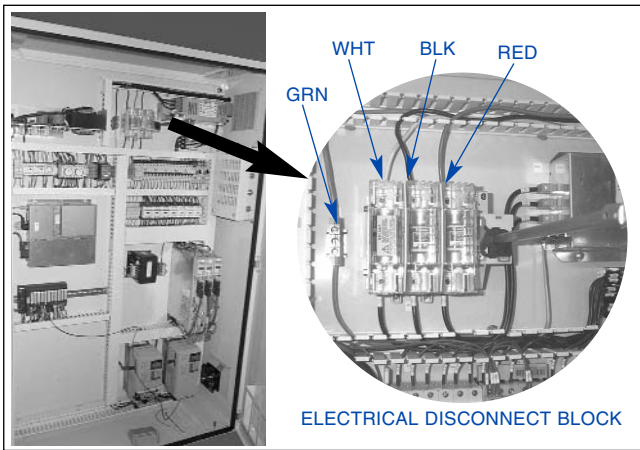

FIGURE 1-7, Electrical Enclosure
2. Insert Electrical Supply Cord through Entrance Hole, and route to Electrical Disconnect Block (see Figure 1-7).
- If rotation is incorrect, shut OFF power to Machine and reverse any two wires (RED, WHT, or BLK) of Electrical Supply Cord where they are connected to Electrical Disconnect Block in Electrical Control Enclosure. (Refer “Electrical” and to Figure 1-7.)